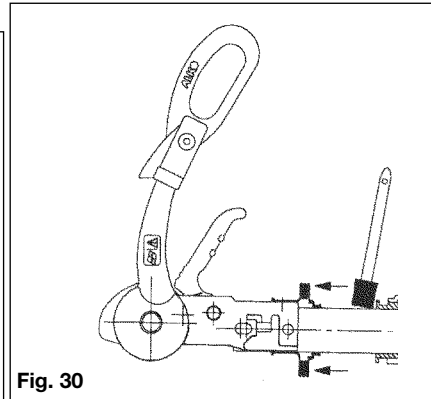

Fig. 30
- b) Lubricate the draw shaft sleeve via the grease nipples. In addition, push the gaiter forward and grease (DIN 51 825 KTA 3K) the exposed part of the shaft (Fig. 30).